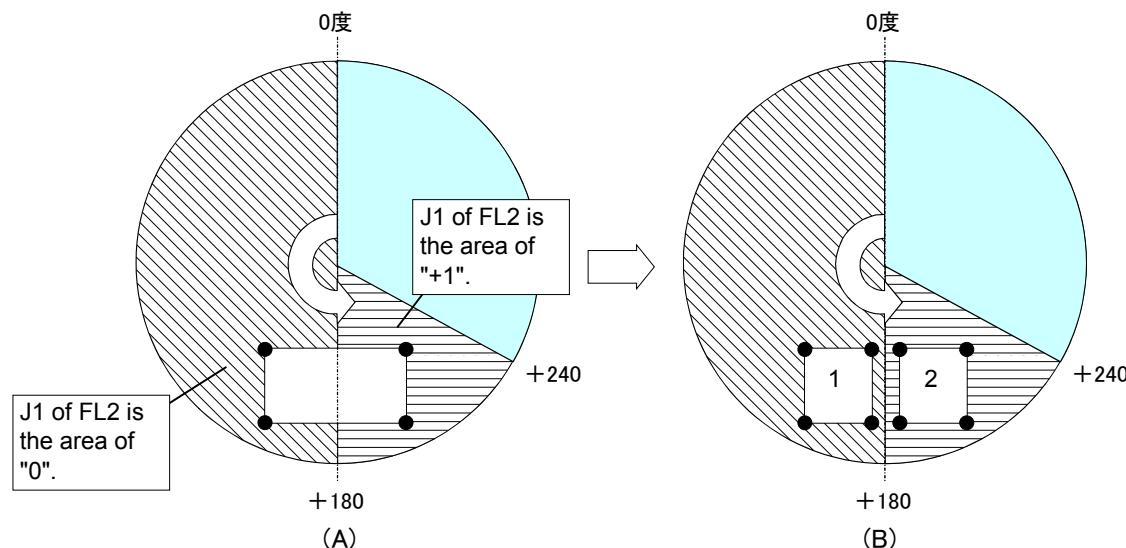
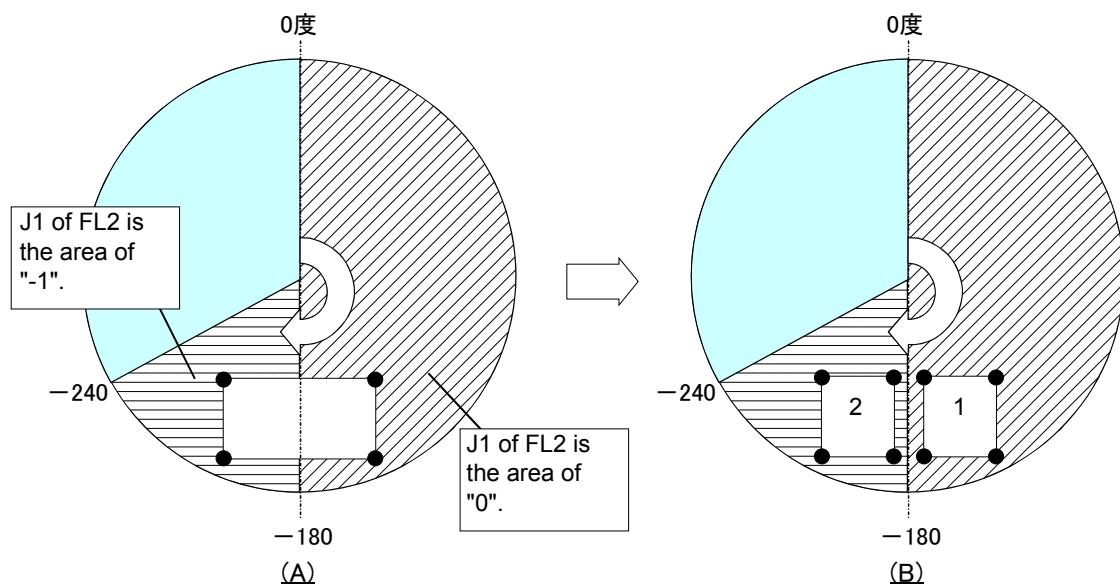

Fig.4-1:Limitation of the palette definition(1)
Fig.4-2:Limitation of the palette definition(2)
In the robot types (RV-2SQ etc.) in which the J1 axis or the J4 axis can exceed the +/-180 degrees, the palette that the joint angle of the J1 axis or the J4 axis straddles the +/-180 degrees cannot be specified. The alarm will occur, if such position were defined. The example is shown in Fig. 4-1(A) and Fig. 4-2(A).
If you use the pallet in such a position, please divide and define the palette. Refer to Fig. 4-1(B) and Fig. 4-2(B).